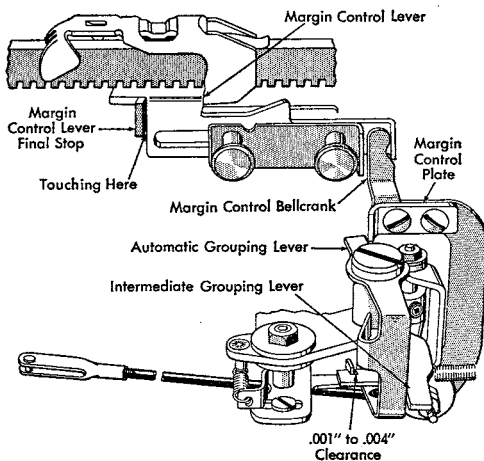

Figure 26. Margin Control Plate Adjustment
8. MARGIN CONTROL PLATE. Adjust to allow .001" to .004" clearance between the grouping latch and the left side of the notch in the intermediate grouping lever. This clearance is observed when the carriage is held to the extreme right so that the margin control lever is against its final stop (Figure 26).